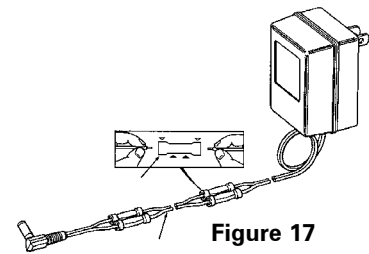

Figure 17
- b. Insert stripped wire into barrel of connector and crimp. For best results, crimp twice per wire as shown in Figure 17 .